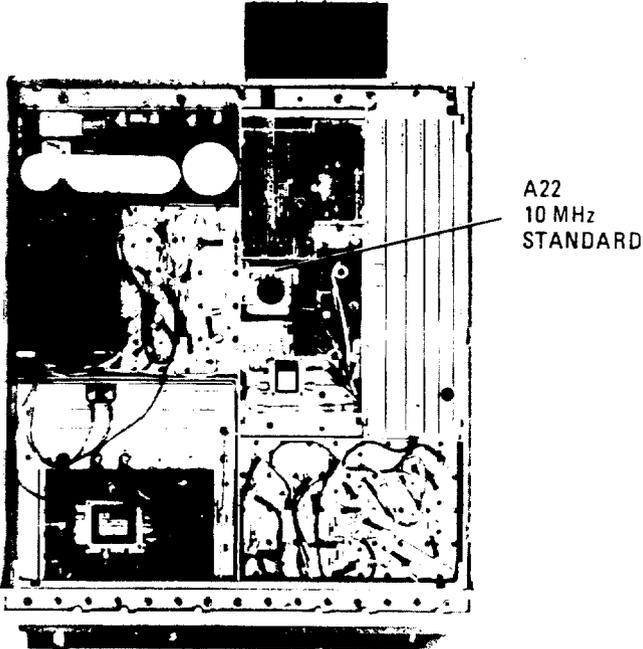

FIGURE 39. LOCATION OF 10 MHz STANDARD ADJUSTMENTS
8. Adjust A22 COARSE frequency adjust for minimum sideways movement of the displayed signal. Adjust A22 FINE frequency adjust for minimum sideways movement of the displayed signal. No sideways movement indicates that frequency standard and internal time base frequency are the same. Refer to Figure 39 for location of A22 10 MHz Standard.